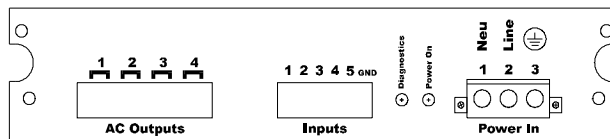

FIG. 20: POWER WIRING DIAGRAM
- The AC power should be supplied by a “clean” primary line, directly from the power panel. This line should not supply any other equipment, including the feeding unit, and should be supplied with a minimum 10 amp breaker. (See Fig. 20)
- Step 2. Install a 3-wire, minimum 14 AWG power line to the 3-pin terminal block connector. (See Fig. 20)